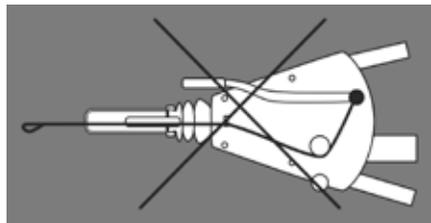

Figure 3 DO NOT wrap breakaway cable around jockey wheel.
2. The breakaway cable **MUST NOT** be wrapped around the jockey wheel, as this disables the emergency brake (Fig 3).